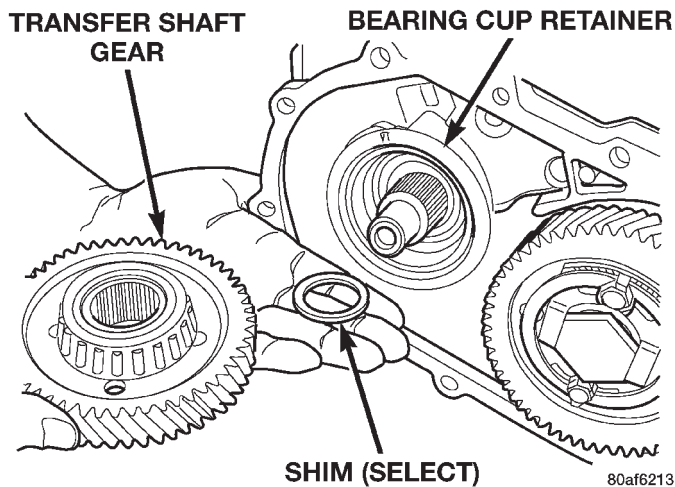
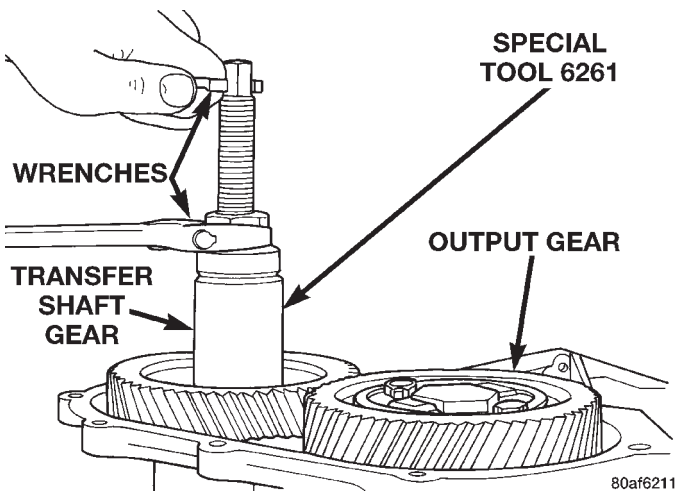

Fig. 259 Transfer Shaft Gear and (Select) Shim
Fig. 260 Install Transfer Shaft Gear
(3) Refer to the Transfer Bearing Shim Chart for the required shim combination to obtain the proper bearing setting.
(4) Use Tool 6259 to remove the retaining nut and washer. Remove the transfer shaft gear using Tool L-4407.
(5) Remove the gauging shim and install the correct shim (Fig. 259). Install the transfer gear and bearing assembly (Fig. 260).